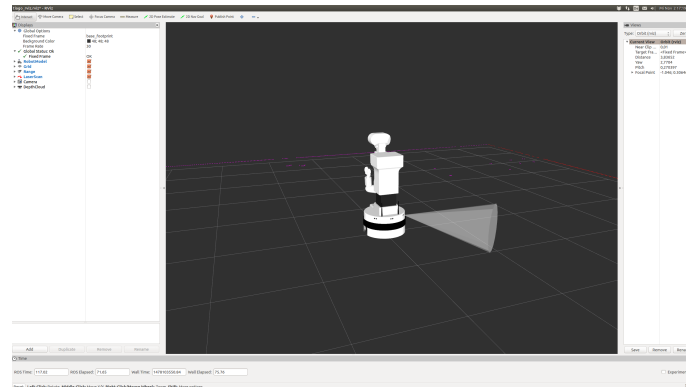

Figure 5.3: TIAGo robot displayed in rviz with all its sensors.
9.- Use the `key_teleop` demo to move around the robot and see how the data is displayed on `rviz` (see Fig. 5.3).